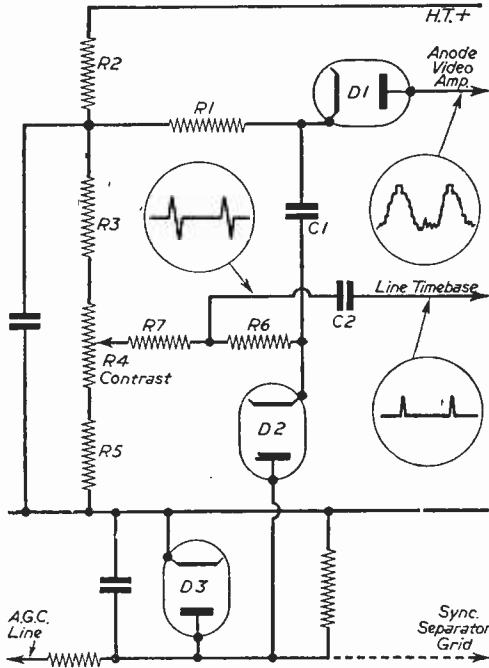

Fig. 7.—Gated A.G.C. D1 is the diode gate, D2 the A.G.C. rectifier, D3 for protection.
In this latter case the picture transmitted remains peak white, and a true A.G.C. system has to be capable of distinguishing a change of scene, in which the sync. pulse stays constant, from loss of signal when the sync. pulse will shrink with the rest of the modulation. Such a system is shown in Fig. 7.
D.C. voltage could be derived according to its amplitude. In Fig. 7 this is done in the following way: D1 anode is connected to the anode of the video amplifier, where the picture is negative going, and its cathode is taken to a tap on the potential divider R2 R3 R4 R5. This is more positive than the anode and so the diode does not conduct. A positive waveform from the line flyback is passed through C2, which differentiates it with R7 and produces an additional negative spike which occurs after the flyback and coincides with the back porch. This passes to the cathode of D1 and lowers its potential enabling it to conduct.